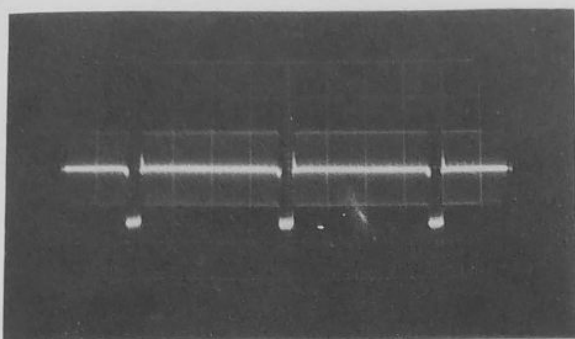

Figure 21. Output, Linearity Checker, 4V Sweep P-P, .3V Sync. Horizontal Sweep Rate
5. Set the linearity checker for gated sweep output. The gated sweep output will now contain sync, as shown in Figures 21 and 22.